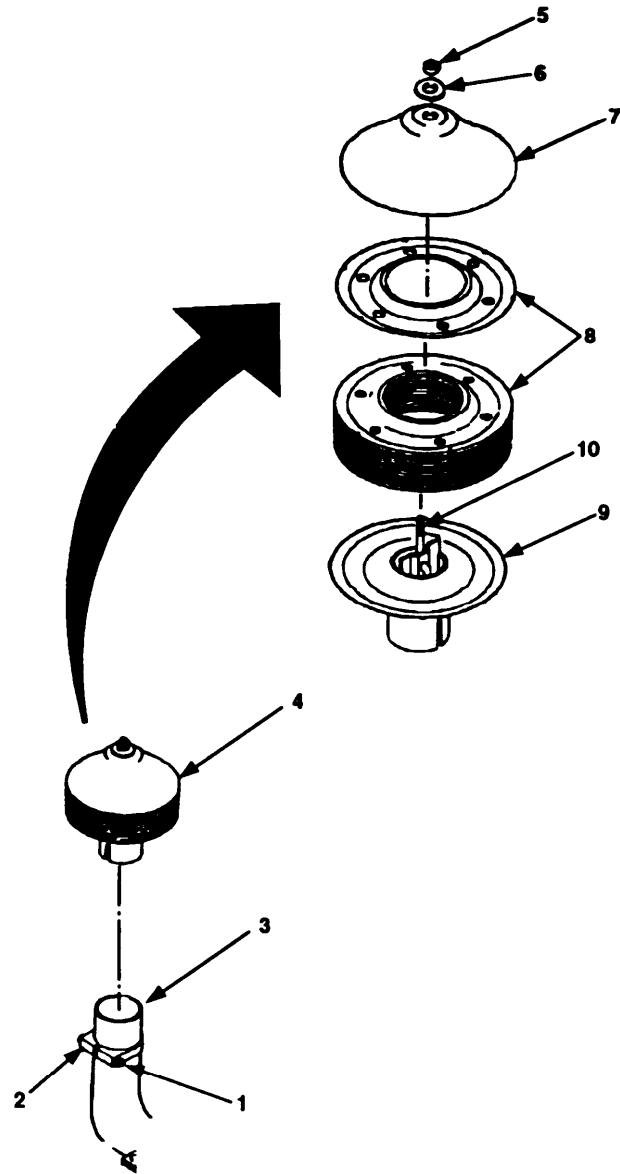

Figure 4-2. Spark Arrester Maintenance.
- a. Loosen nut (figure 4-2, 1) that secures clamp (2).
- b. Slide clamp (2) onto exhaust pipe (3).
- c. Remove spark arrestor (4).
- e. Inspect baffles (8) for cracks, holes or other damage.
- f. Check base (9) for cracks and holes.
- g. Position mounting stud (10) in base (9).
- h. Align indentations of baffles (8) and position to base (9) as indicated in figure 4-2.
- i. Install cap (7), washer (6) and thread nut (5) on to mounting stud (10). Tighten nut.
- a. Place spark arrestor (4) on exhaust pipe (3).
- b. Position clamp (2) so that it tightens on both spark arrestor (4) and exhaust pipe (3).
- c. Tighten nuts (1).